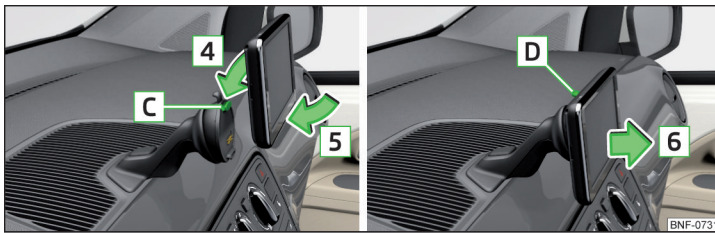

Fig. 87 Secure/remove device
- Place the device first in the top bracket in the direction of arrow » Fig. 87.
- With the other hand press the unlocking button and remove the device in the direction of arrow » Fig. 87.